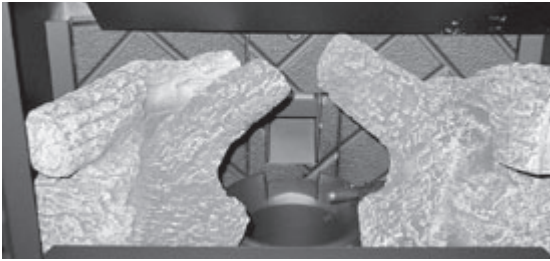

Figure 26.2
5. Connect your thermostat wire to the W and R terminals (**Figure 26.2**).
4. Push the logs to the far left and far right against the sides of the firebox (**Figure 26.2**).